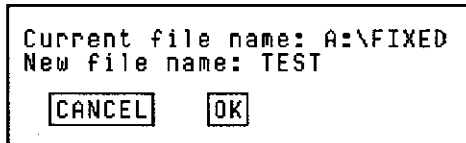

Figure 3-19. Rename Window
2. Click on <Rename> to display the Rename window, Figure 3-19.